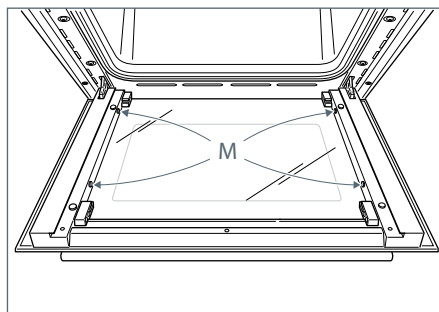

Fig.38a
- Check that the four rubber pads are in place ("M" in Fig. 38a).